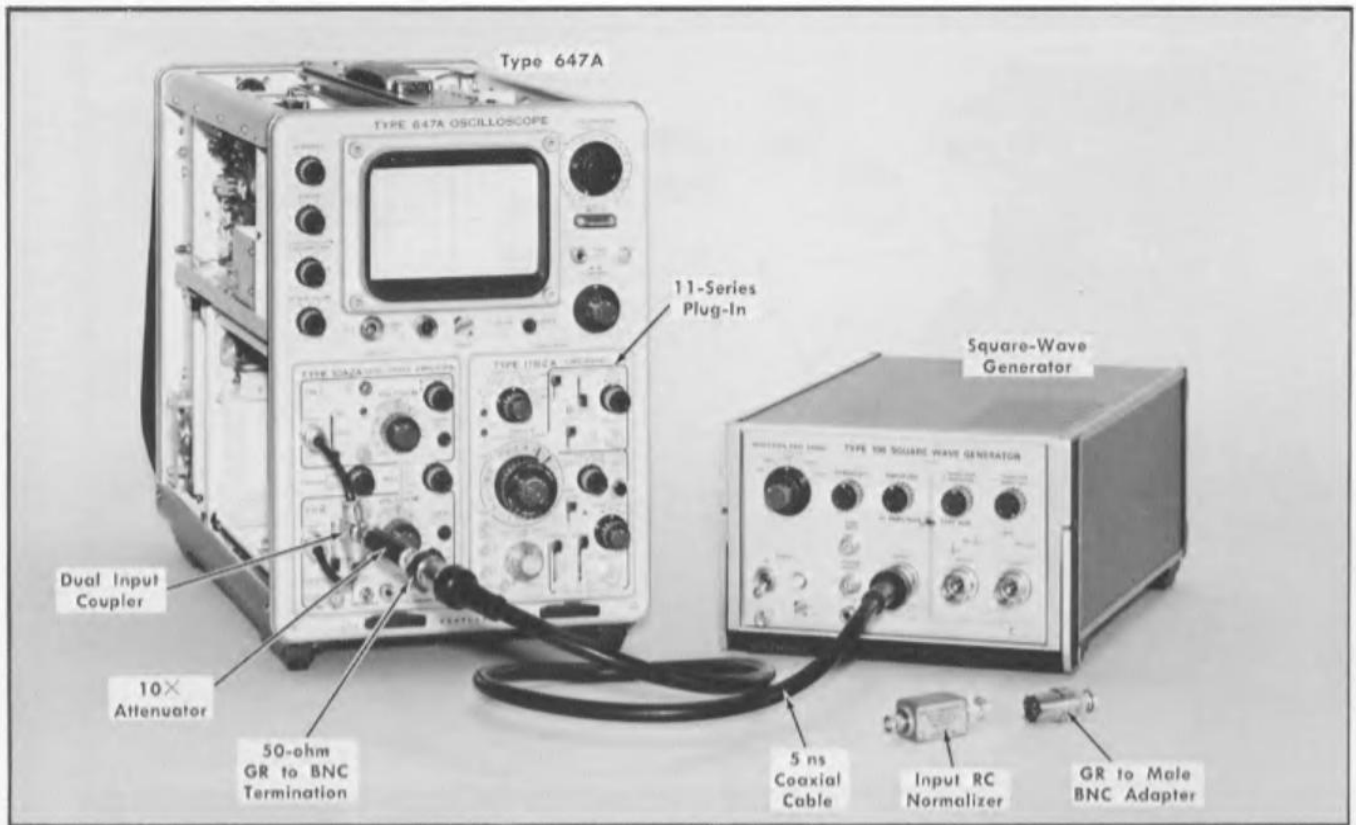

Fig. 6-8. Initial test equipment setup for steps 19 through 24.
- b. Test equipment setup is shown in Fig. 6-8.